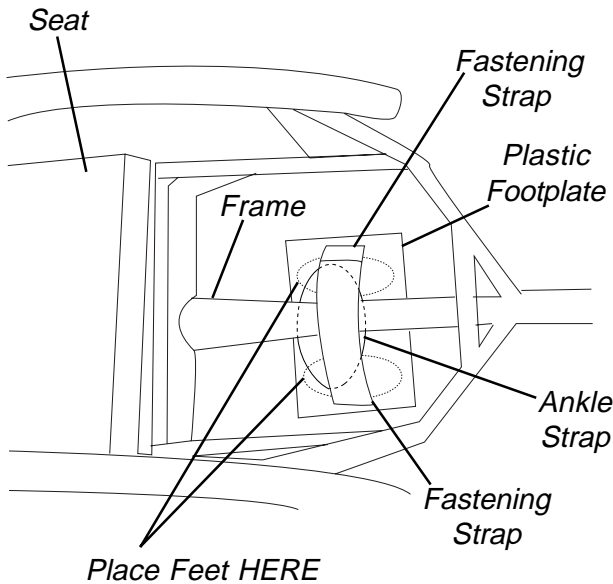

FIGURE 4 - INSTALLING THE PLASTIC FOOTPLATE
**INSTALLING THE PLASTIC FOOTPLATE (FIGURE 4)**
1. Secure the fastening straps around the frame as shown in FIGURE 4.
2. Place feet onto plastic footplate where indicated in FIGURE 4.